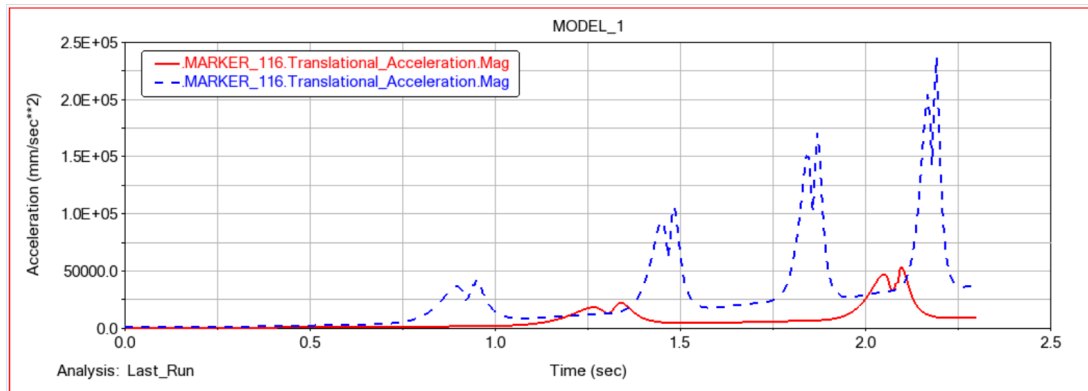

Fig. 8: Superimposed acceleration vs time
2. Acceleration plot is shown in fig 8